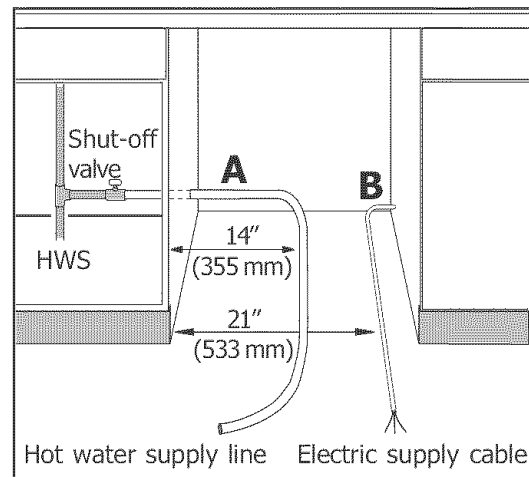

Figure 9
It is recommended that a shut-off valve (not supplied) be installed in the hot water supply line in a readily accessible location, see Figure 9.
- Cut a 1" (25.4mm) diameter hole in the cabinet (in area of Figure 9 B). For wood cabinets, sand the hole until smooth. For metal cabinets, cover the edge with a grommet.